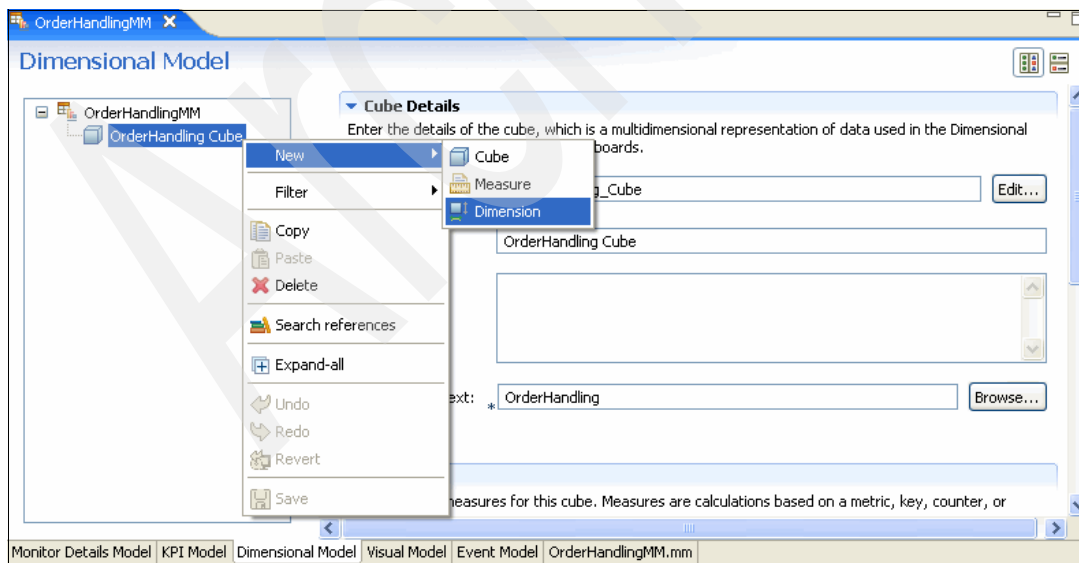

Figure 8-112 Adding a dimension
2. In the Dimensional Model panel (Figure 8-112), right-click **OrderHandling Cube** and select **New** → **Dimension** to add a dimension.